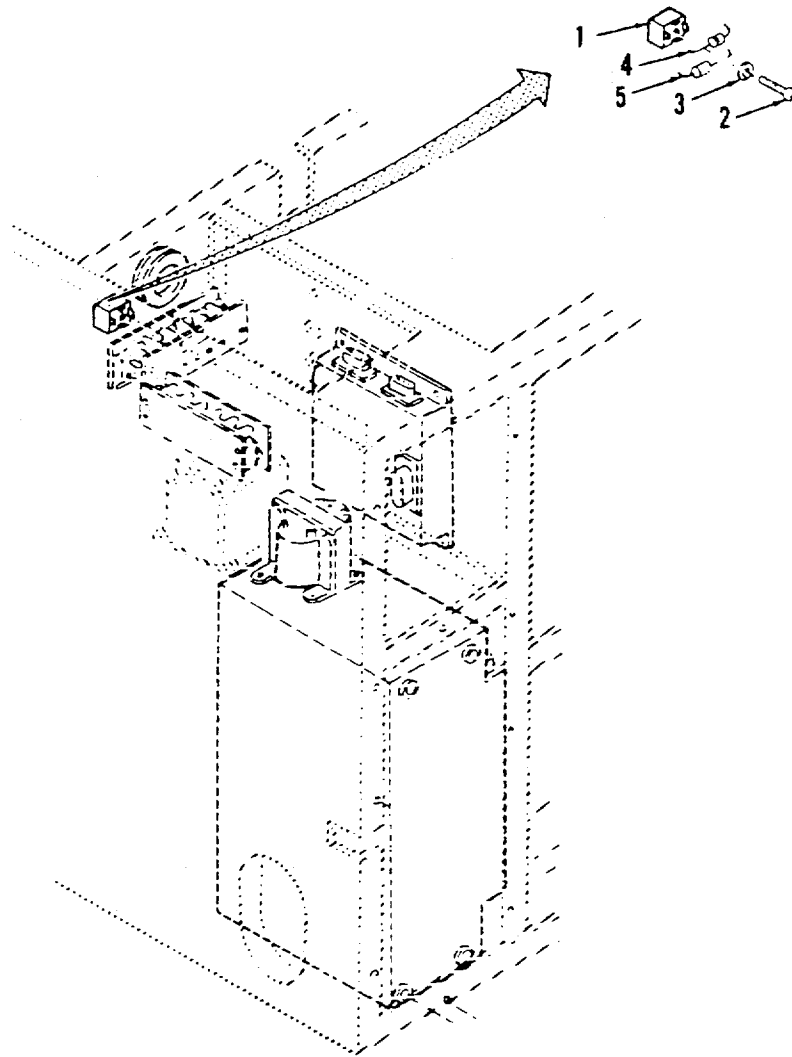

Figure 3-29. Rectifier.
- a. **Removal.** (Refer to Figure 3-29).